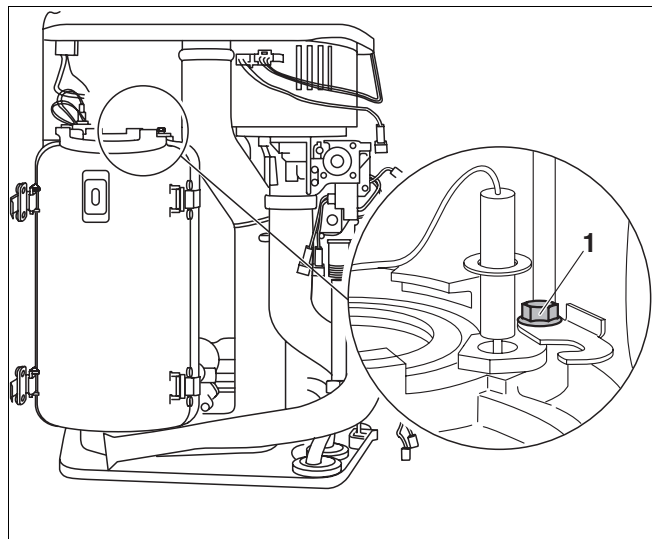

Fig. 81 Replacing the ionisation electrode
- Loosen screw (fig. 81, item 1) by a half-turn and slide bar to remove.